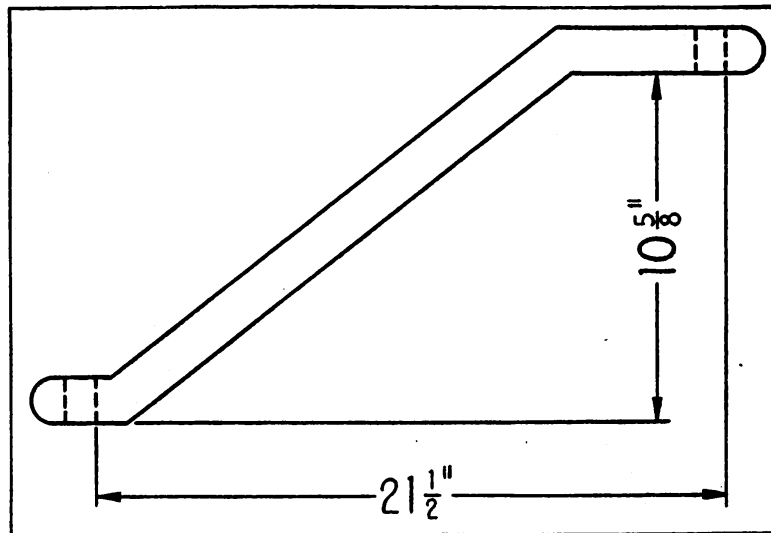

FIGURE 80. DIMENSION LAYOUT FOR SUPPORT CONNECTING RODS.
8. CONNECTION ROD REPAIRS.—Bent support connection rods may be heated and straightened. Measurement of the straightened rod should conform to the dimensions outlined in Fig. 80.